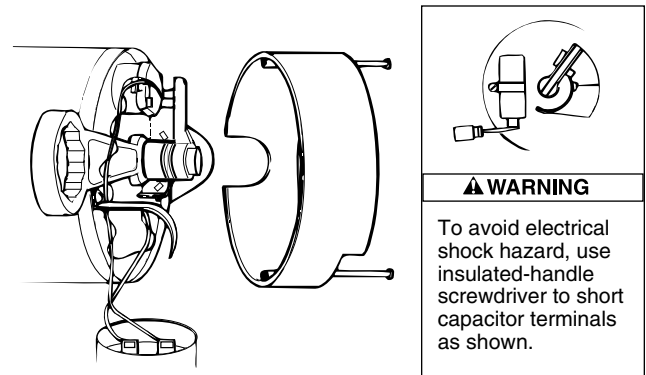

Figure 20 – Hold Shaft
2. If impeller must be replaced, loosen two machine screws and remove motor canopy (see Figure 20).
3. **▲ WARNING** **Capacitor voltage may be hazardous.** To discharge capacitor, hold insulated handle screwdriver **BY THE HANDLE** and short capacitor terminals together (see Figure 20). Do not touch metal screwdriver blade or capacitor terminals. If in doubt, consult a qualified electrician.